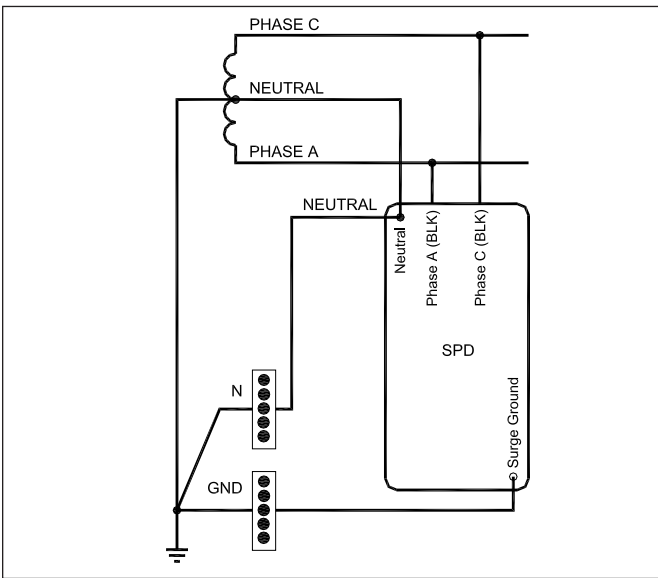
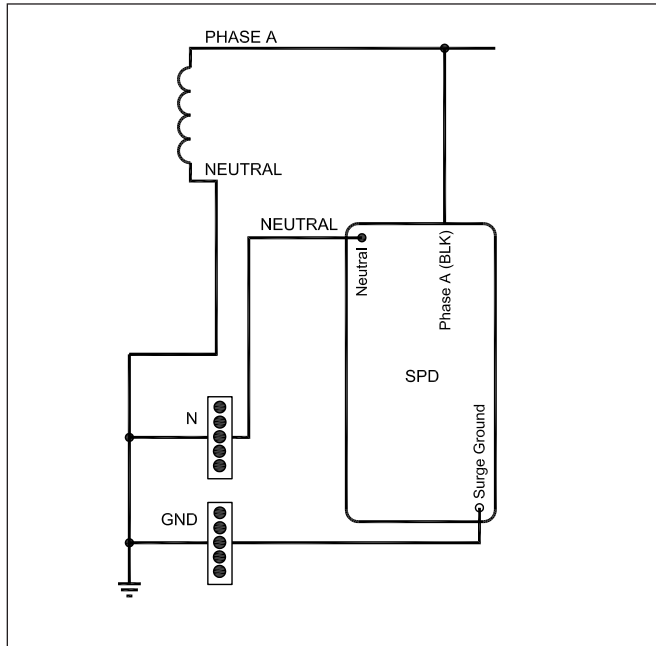

Figure 9. Split phase units
Figure 13. Wiring - single phase units (230 L)
5. Select the correct wiring diagram for the SPD you are installing. You must refer to this diagram while wiring the SPD. See Figure 9 - Figure 13. SPD Series type 1 and type 2 units do not require over current protection devices, fuses or circuit breakers to operate correctly. All local and national electric codes must be followed during installation and these codes may require protection of the conductors leading to the SPD unit.